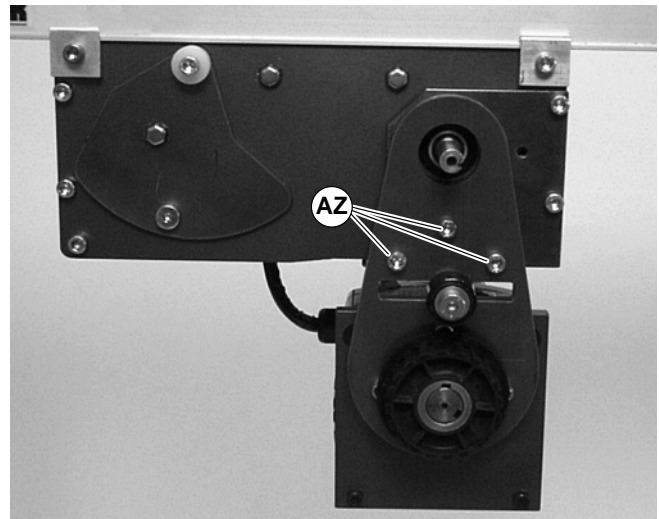

Figure 25
3. Remove three mounting screws (AZ of Figure 25) and remove gearmotor.